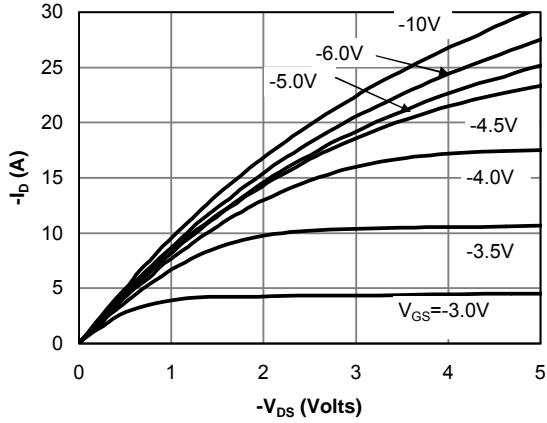

Fig 1: On-Region Characteristics
D. The static characteristics in Figures 1 to 6,12,14 are obtained using $<300\mu\text{s}$ pulses, duty cycle 0.5% max.